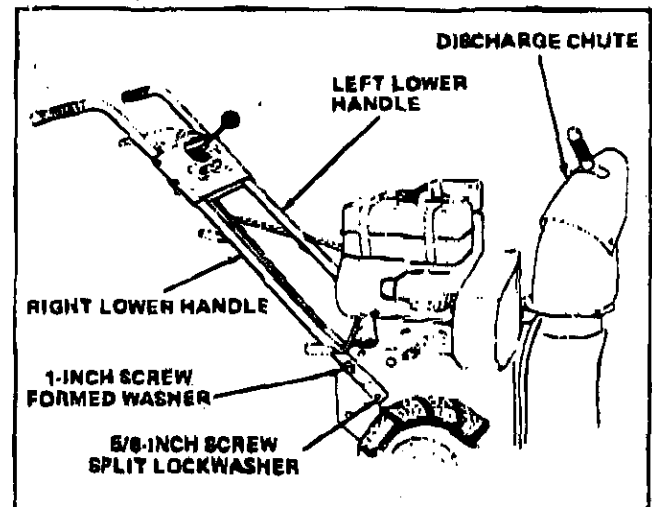

Figure 3
1. Secure lower handles (figure 3) with two 5/8 inch screws, two split lockwashers, two 1 inch screws and two formed washers. **NOTE:** Handle with hole in the center must be installed on the left side of the unit.